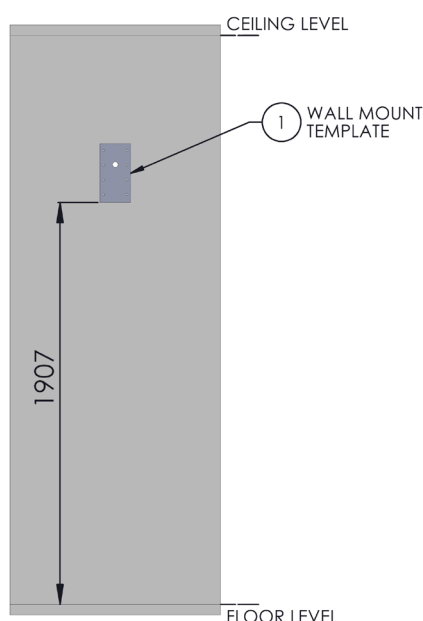

Fig. 16.0
1. Use the Phantom Wall Mount Template (refer 4.0 Installation). Measure up 1907mm from the floor, and align the bottom of the wall mount template with this mark. Position and fix the template into position, ensuring that both edges are level to the vertical and horizontal, as shown in Fig. 16.0. Use the template to mark hole positions for cable access and mounting.